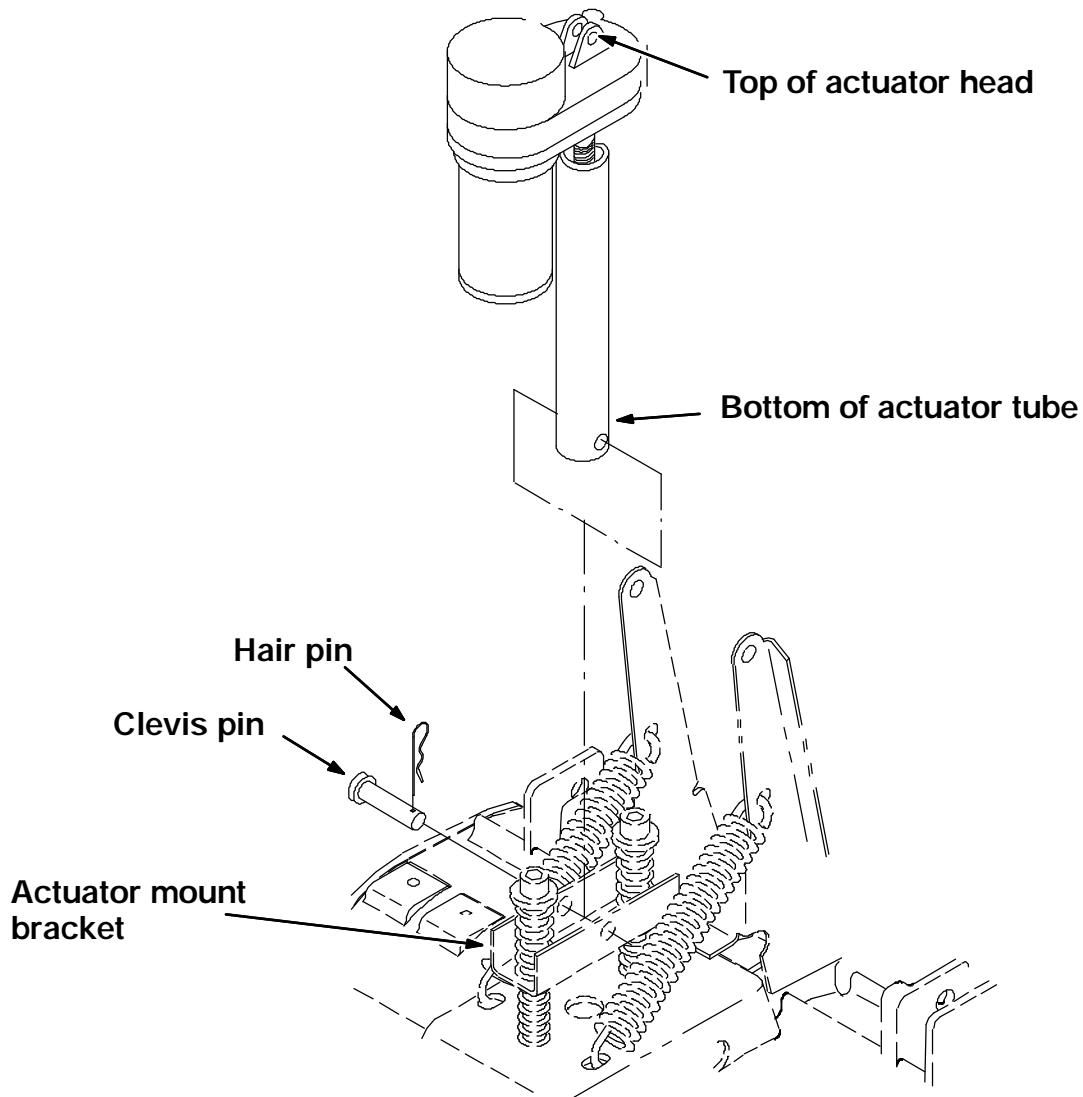

FIG. 2 - Actuator Tube, Cotter And Clevis Pins
(Refer to FIG. 2)
(Refer to Fig. 2)
1. Place the new actuator in the upper mount bracket and install the clevis pin and hair pin. (Refer to Fig. 2)
2. Connect the new actuator (1) to the main harness.
3. Align the mounting hole in the bottom of the actuator tube with the hole in the scrub head actuator mount bracket. Install the clevis and hair pin. (Refer to Fig. 2)
5. **On the 5700 machine**, check the actuator adjustment by raising the scrub head until the top of the actuator tube is 9 mm (3/8 in.) from the bottom of the actuator head. If the actuator tube does not stop at that dimension with the brush switch on, remove the bottom clevis pin and turn the tube to achieve the proper dimension, then reinstall the clevis pin. (Refer to Fig. 2 and 3)